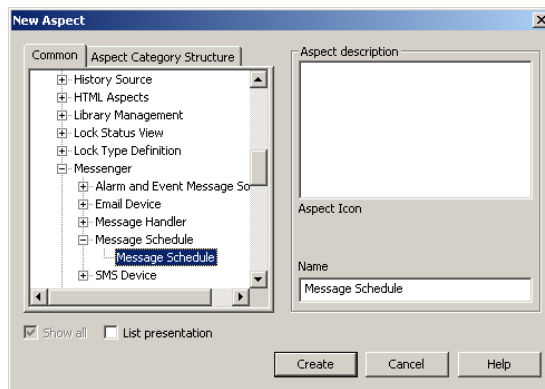

Figure 105. New Aspect Dialog Box (Message Schedule)
- a. Navigate to and select `Message Schedule` from the list that appears to produce the view shown in Figure 105.